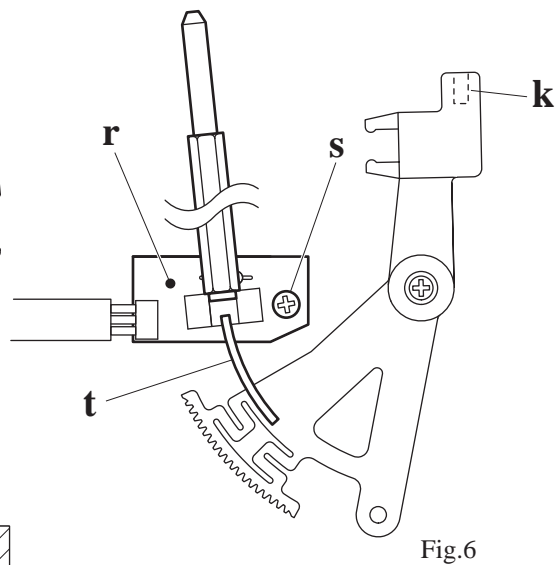
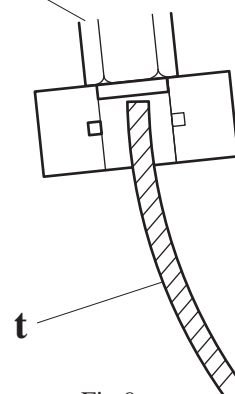

Fig.6
Fig.9
7. Adjust the position of sensor Printed Circuit Board (Fig.6-r), so that the end of shelter plate (Fig.6-t) on the lower DECO gear may locate at the position shown as (Fig.9-v) and fix the P.C.B. with set screw (Fig.6-s). The proper position of end of shelter plate may be secured with gauge **No.11684**.(Fig.9)